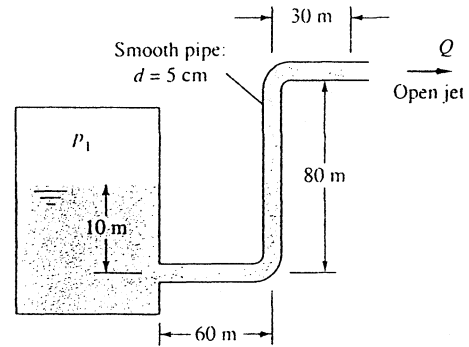

Fig. P6.52
6.52 The pipe flow in Fig. P6.52 is driven by pressurized air in the tank. What gage pressure p_1 is needed to provide a 20°C water flow rate $Q = 60 \text{ m}^3/\text{h}$?
6.53 In Fig. P6.52 suppose $p_1 = 700 \text{ kPa}$ and the fluid specific gravity is 0.68. If the flow rate is $27 \text{ m}^3/\text{h}$, estimate the viscosity of the fluid. What fluid in Table A-5 is the likely suspect?